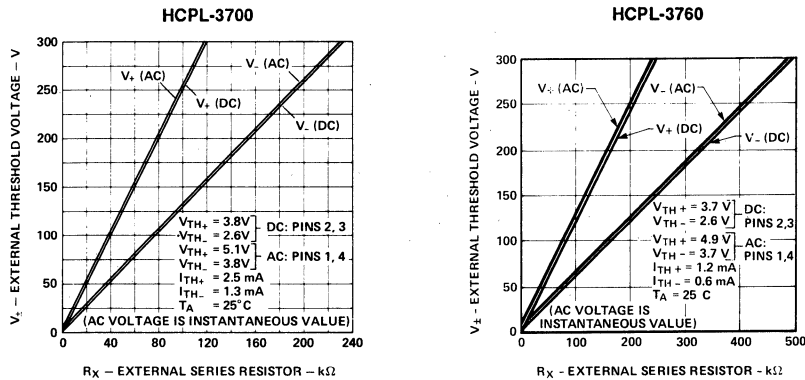
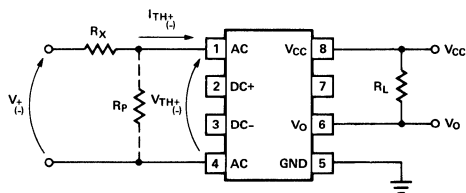

Figure 11. Typical External Threshold Characteristics, V_{\pm} vs. R_x .
Figure 12. External Threshold Voltage Level Selection.
The HCPL-3700/3760 optocouplers have internal temperature compensated, predictable voltage and current threshold points which allow selection of an external resistor, R_x , to determine larger external threshold voltage levels. For a desired external threshold voltage, V_x , a corresponding typical value of R_x can be obtained from Figure 11. Specific calculation of R_x can be obtained from Equation (1). Specification of both V_+ and V_- voltage threshold levels simultaneously can be obtained by the use of R_x and R_p as shown in Figure 12 and determined by Equations (2) and (3).